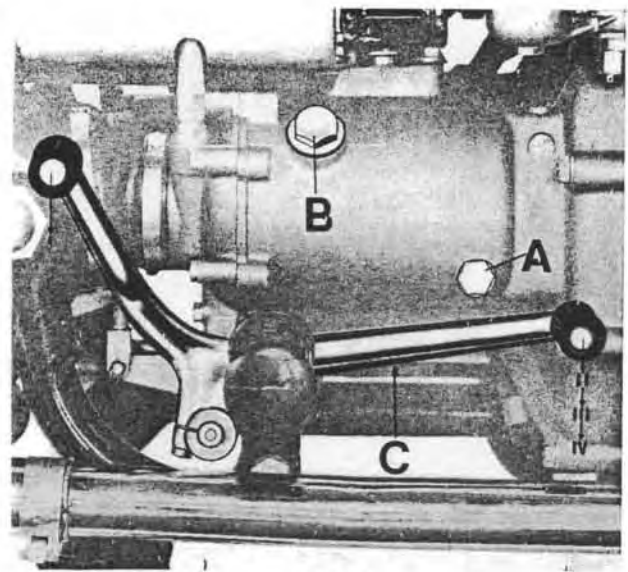

Fig. 78
GEAR BOX CONTROL (see Fig. 78)
Note: To remove the above parts from clutch shaft it is necessary to position the shaft on a pressing machine and after having fitted tool No. 12905900 (see 23 on Fig. 78) press down enough to remove the two semicollars from shaft groove.
- Filler plug and drain plug (B and A on Fig. 78).